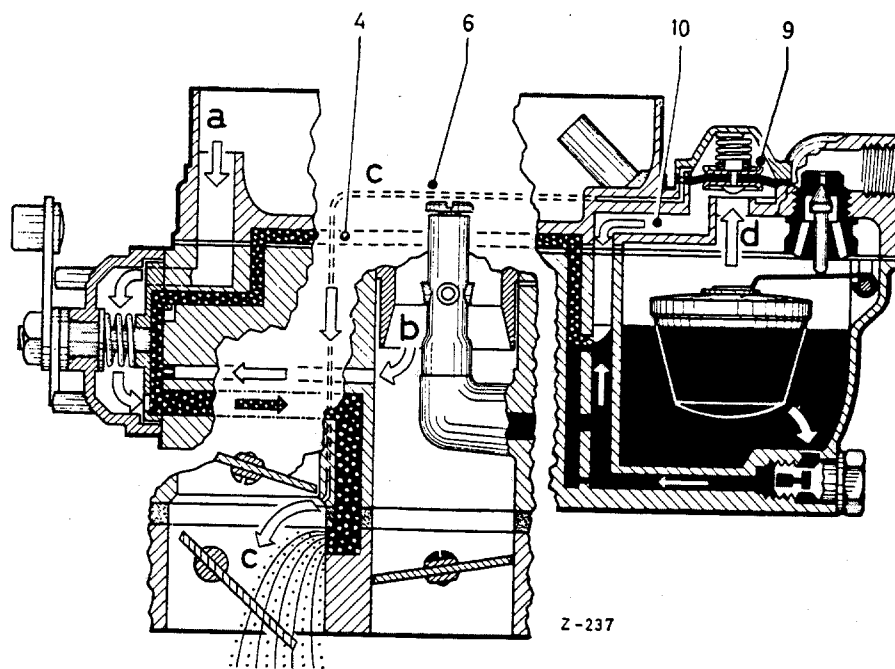

Fig. M 31 S/09
Due to the partial vacuum effect, the starter air valve opens and admits more air from the float chamber via the air tube (10) to the starter system via the canal (4). This additional air immediately attenuates the starting mixture after the engine has started, thus ensuring the proper conditions for it to continue running (Fig. M 31 S/09).